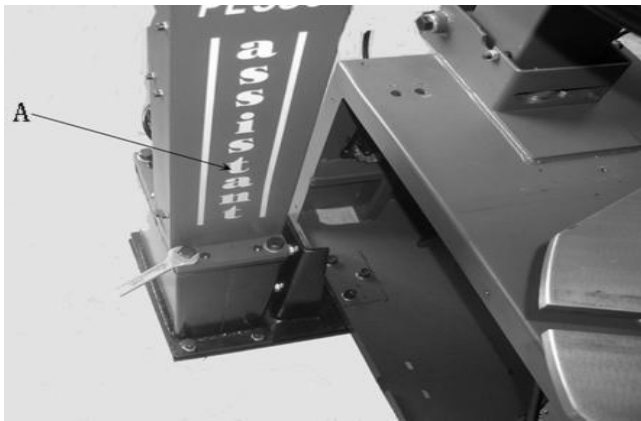

Fig 7-3
7.1.4 Install the body bracket (fig7-3 A) on the seat assembly. Align. Use the screw removed before to fix and not tighten Fig (7-3)